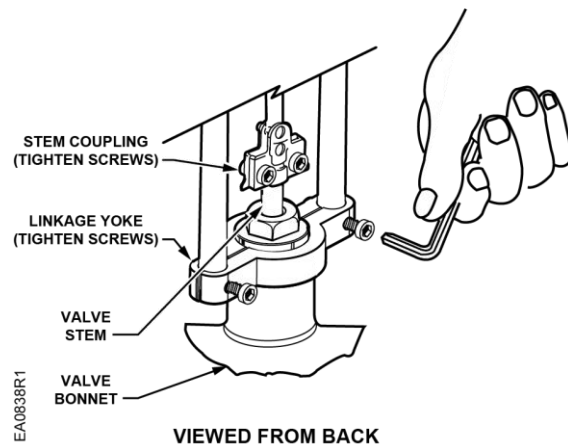

Figure 6. Connecting the Linkage Assembly on the Valve.
7. Use the 1/4-inch Allen wrench to tighten the nuts in the linkage yoke and to secure the linkage on the valve bonnet. See Figure 6.